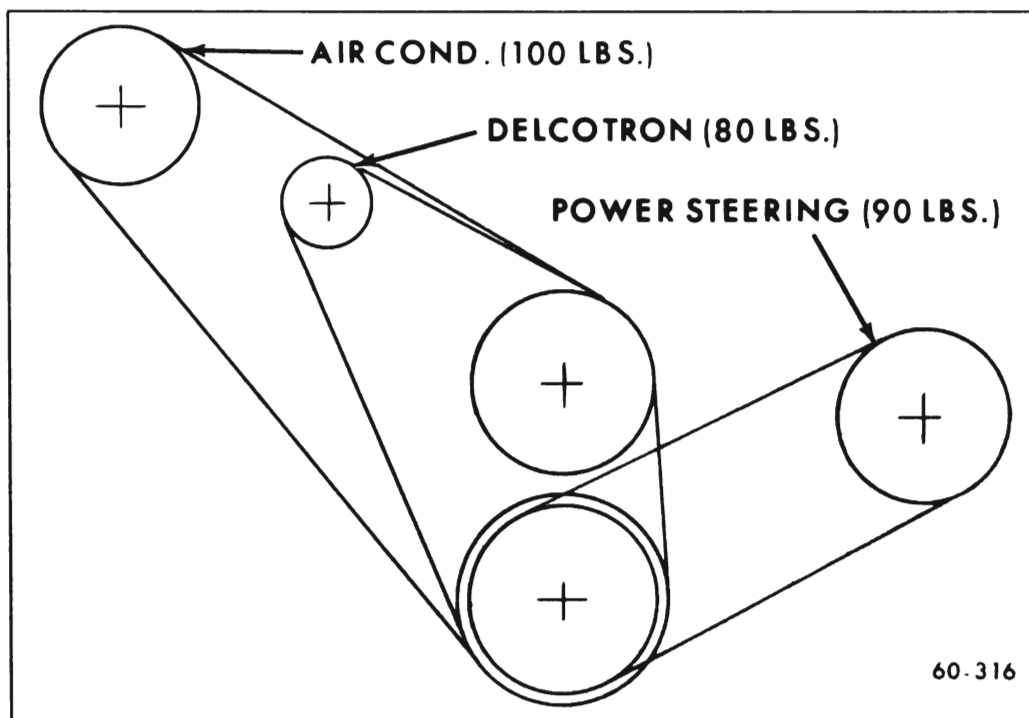

Figure 60-258 Engine Belt Tension Chart
The Delcotron generator must be moved outboard to adjust the fan belt. After the Delcotron generator brace and mounting bolts are securely tightened, the fan belt tension should be checked. See Figure 60-258.
If the power steering oil pump belt is removed it should be adjusted to tension specified, in Figure 60-258.
If the Air Conditioner compressor belt is disturbed it should be adjusted as specified, in Figure 60-258.
3. Install fan pulley or pulleys and fan blade, tighten attaching bolts securely. Install belts and adjust for proper tension. See Figure 60-258.